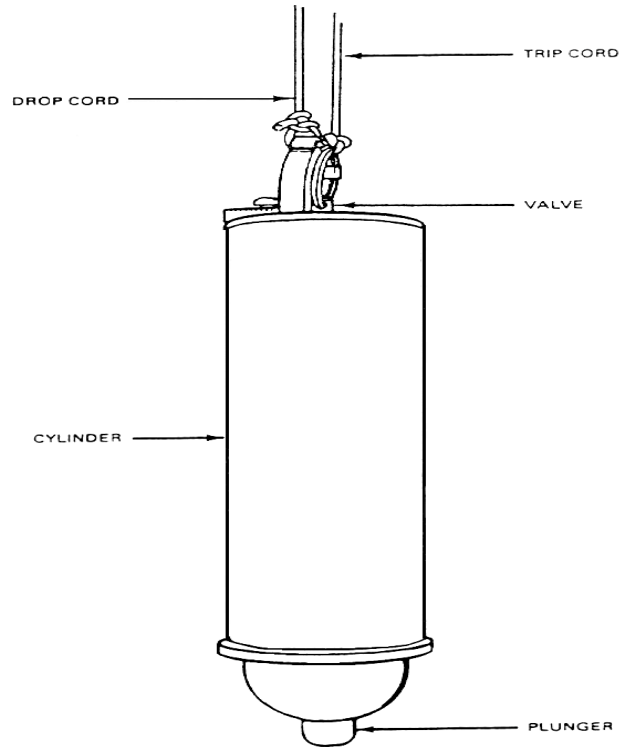

Figure 3-24. Bacon bomb thief sampler
- **The Bacon bomb thief** may be modified as shown in (Figure 3-24) to speed up operations, save product, and reduce health hazards.